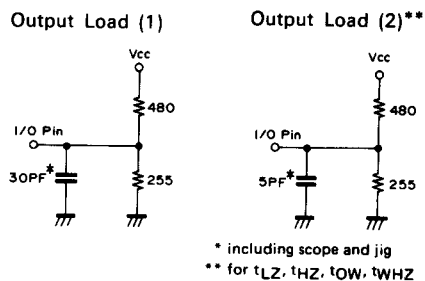

Fig. 1
Output Load	Fig. 1
* Transition is measured ± 500 mV from steady voltage with specified loading in Fig. 1. This parameter is sampled and not 100% tested.